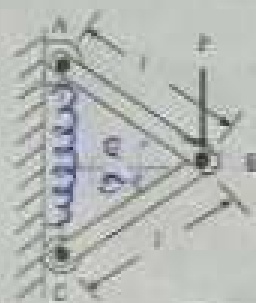

Fig. 9
- (a) Determine the expression for  $\theta$  and for the tension in the spring which correspond to equilibrium position of the spring (Fig. 9). The un-stretched length of the spring is  $h$  and spring constant is  $k$ . Neglect the weight of the mechanism.